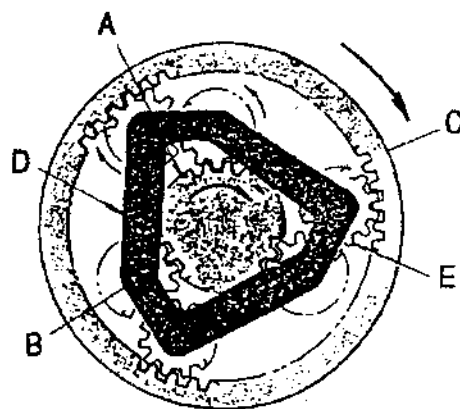

Fig. 2-13
The above principle is a structural principle of the first, third and fourth planetary gear system. The sun gear (A) is taken as driving in the first planetary system. The carrier (D) is taken as driving in the third and fourth planetary gear system. If the opposite direction to that of the above mentioned output rotation is wanted, just add a set of planetary gear (E). (See Fig. 2-13). This transmission type of A-B-E-C is the structural principle of second planetary gear system.